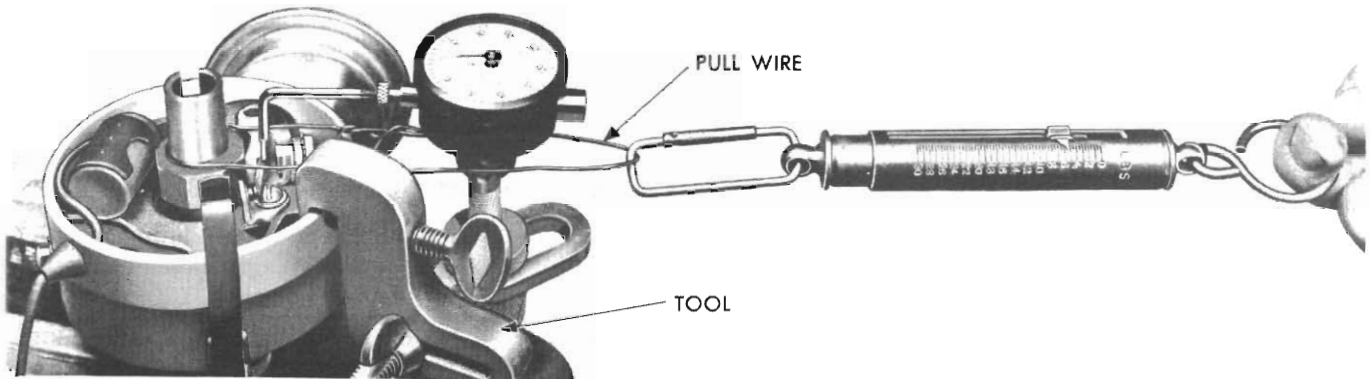

Fig. 1 - Shaft and Bushing Wear Test (typical view)
(Fig. 1) connect 12 volt test lamp between distributor primary terminal and battery positive post.
- (1) Remove the distributor rotor.
- (2) **DO NOT LOOSEN** the inner nut that holds the movable contact arm tension spring to the terminal post.
- (3) Clamp the ribbed section of the distributor housing lightly in a vice equipped with soft jaws and attach the dial indicator to the body of the distributor with the indicator plunger arm resting against the movable contact arm at the rubbing block and with the rubbing block of the contact arm on the highest point of the cam lobe (*Fig. 1*).
- (4) Place one end of a wire loop around the top of the distributor shaft. Hook a spring scale in the other end of the plunger of the indicator gauge. Be sure the wire loop on the shaft end is down on the shaft to ensure a straight pull and also that the wire loop does not interfere with the indicator or holding bracket. Apply a 5 lb. pull and read the movement of the plunger on the indicator dial. (Be sure the rubbing block of the contact arm is on the highest point of the cam lobe during this test). If the plunger movement exceeds .006 inch, replace the housing and/or distributor shaft (*see Distributor Disassembly*).